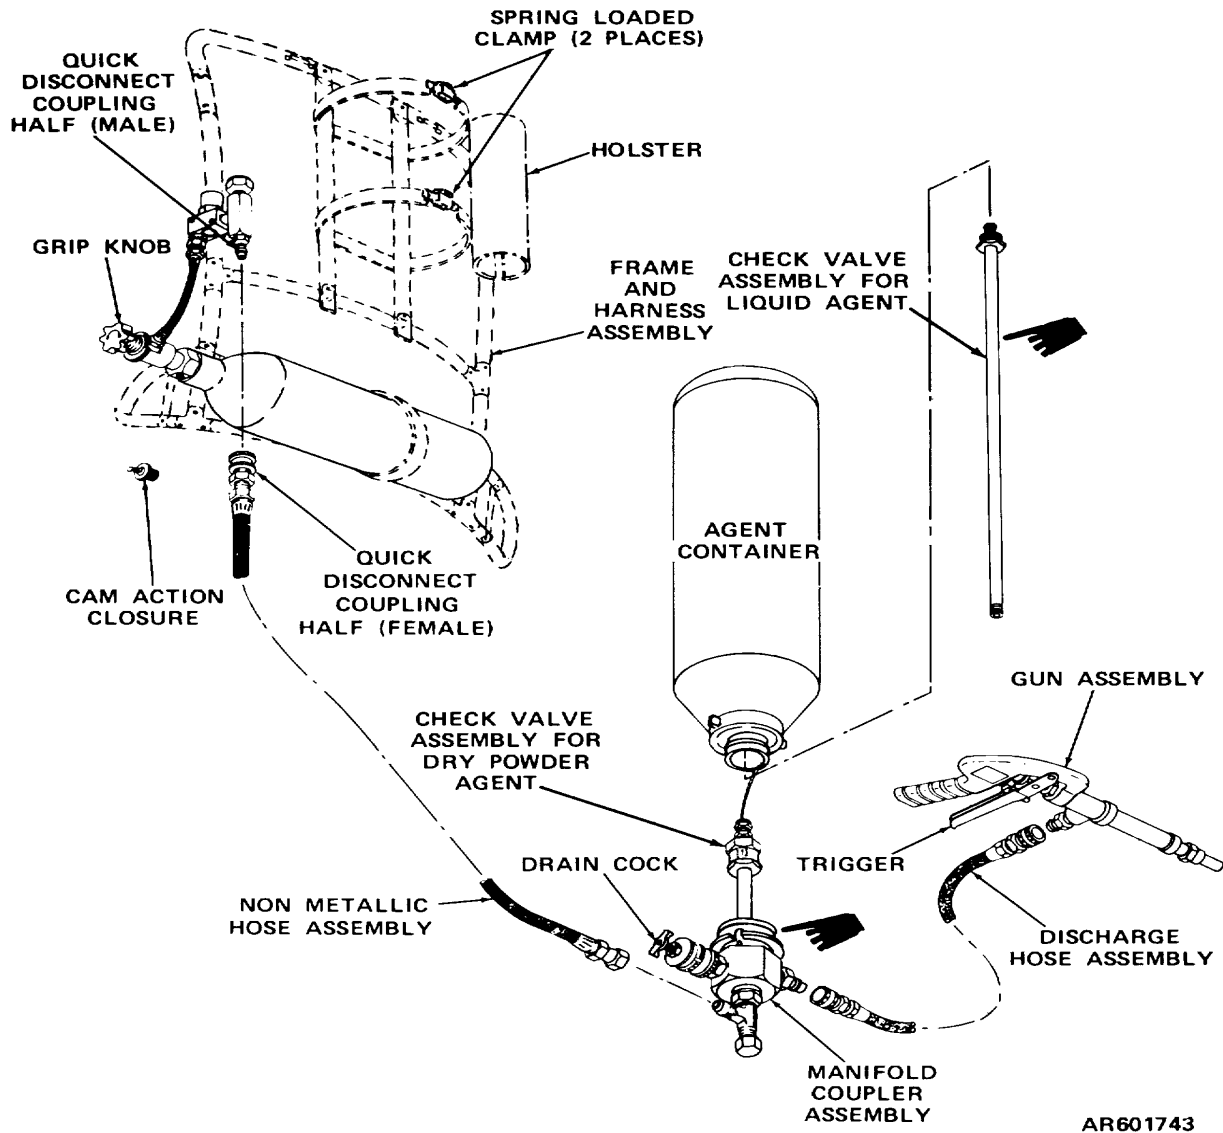

Figure 2-1. On Site Separation of Empty Agent Container Assembly from Frame and Harness Assembly
a. Close the grip knob (fig. 2-1). Disconnect the quick-disconnect female coupling half from the quick-disconnect male coupling half.
d. The cam action closure and the support collar are on the full agent container assembly. However, in figure 2-1, they are shown separate from the agent container.